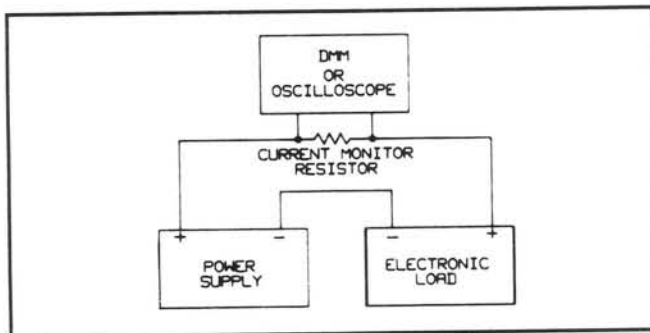

Figure 2-1. Test Setup A
- a. Connect the Electronic Load, power supply (HP 6035A or equivalent), and current monitor resistor (0.100 ohm) as shown in Figure 2-1. Use the DMM to measure the voltage across the monitor resistor and across the module's input terminals.
- a. Use the test setup of Figure 2-1 except connect an oscilloscope across the 0.100 current monitor resistor in place of the DMM. Set power supply for 10 V and 10 A.